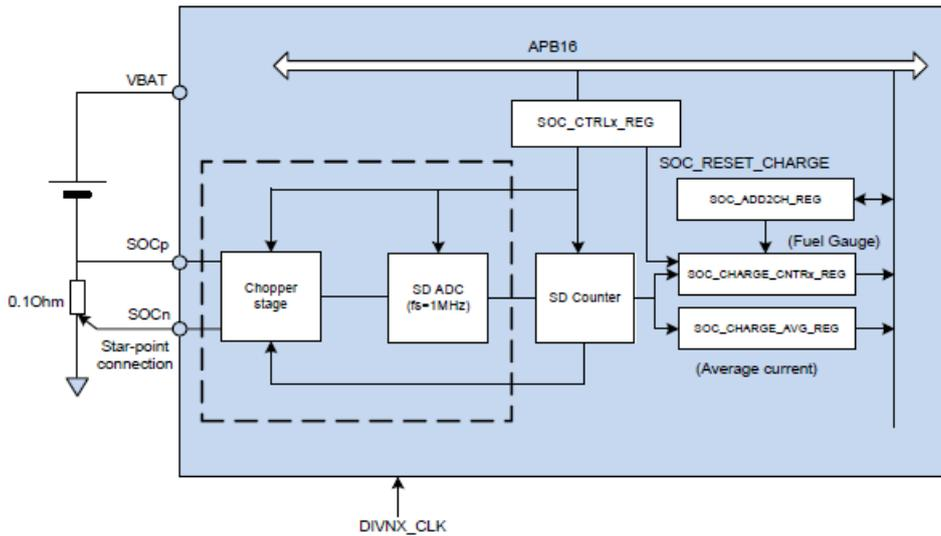

Figure 2: Fuel Gauge Circuit Block Diagram [1]
| Figure 2: Fuel Gauge Circuit Block Diagram [1]..... | 6 |
This is realized by the built in hardware fuel gauge (FG) circuit in the DA1468x. The block diagram of the circuit is shown in Figure 2. The main function of this block is to continuously integrate a voltage which is the result of a current flowing through a sensing resistor. The sensing resistor is recommended to have an accurate value of 0.1Ω and is placed between the SOCp and SOCn pins. For more details of the circuit, please look in the DA1468x datasheet given in [1].